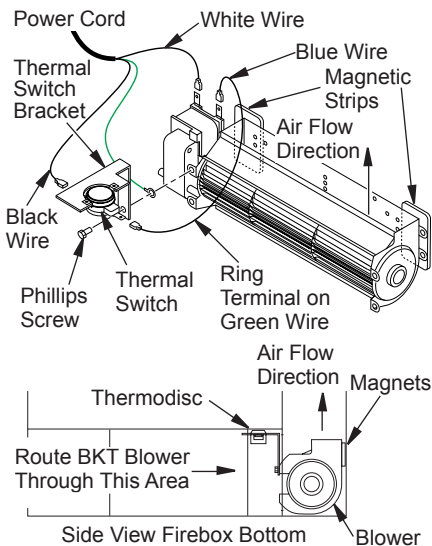

Figure 28 - Blower Model BKT
1. Place green ground wire with ring terminal between bottom hole on thermal switch bracket and top ear hole on blower assembly. Insert phillips screw into all three pieces and tighten securely (see Figure 28).
3. Place blower against lower rear wall of firebox outer wrapper with exhaust port directed upward and thermodisc positioned up near fireplace bottom. Thermodisc must be oriented near fireplace bottom as shown in Figure 28 in order to sense temperature and properly operate. Blower will be held in position against back wall by magnets incorporated onto blower housing (see Figure 28).